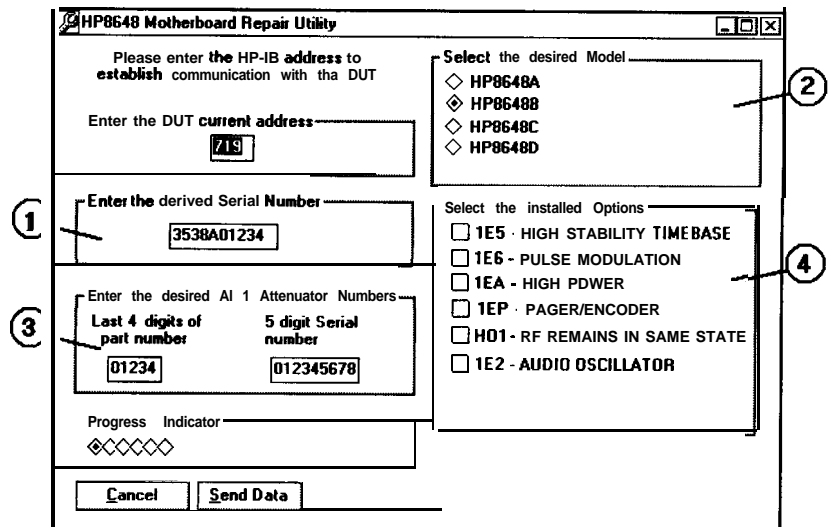

Figure 7-74. HP8648 Motherboard Repair Utility Window
In the HP8648 Motherboard Repair Utility window (see Figure 7-74), notice the three-digit HP-IB address. The first digit is the bus number to which the HP-IB card that is installed in the PC is set. The last two digits are the HP-IB address to which the HP 8648 is set.
3. The HP8648 Motherboard Repair Utility window is displayed along with the following information that is stored in the motherboard. Refer to Figure 7-74.
- The instrument serial number ①
- The instrument model number ②
- The attenuator part number and serial number ③ (HP 8648B/C/D only)
- The options installed in the instrument ④